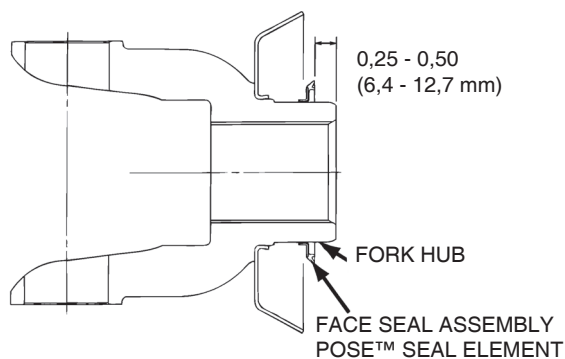

Figure 5.99
3. Install the POSE™ seal onto the hub of the fork or flange by hand. The lips of the seal must face toward the end of the hub, opposite shoulder. Slide the POSE™ seal onto the hub until the lips are 0.25-0.50-inch (6.4-12.7 mm) from the end of the hub. Do not install the POSE™ seal against the shoulder. Figure 5.99.